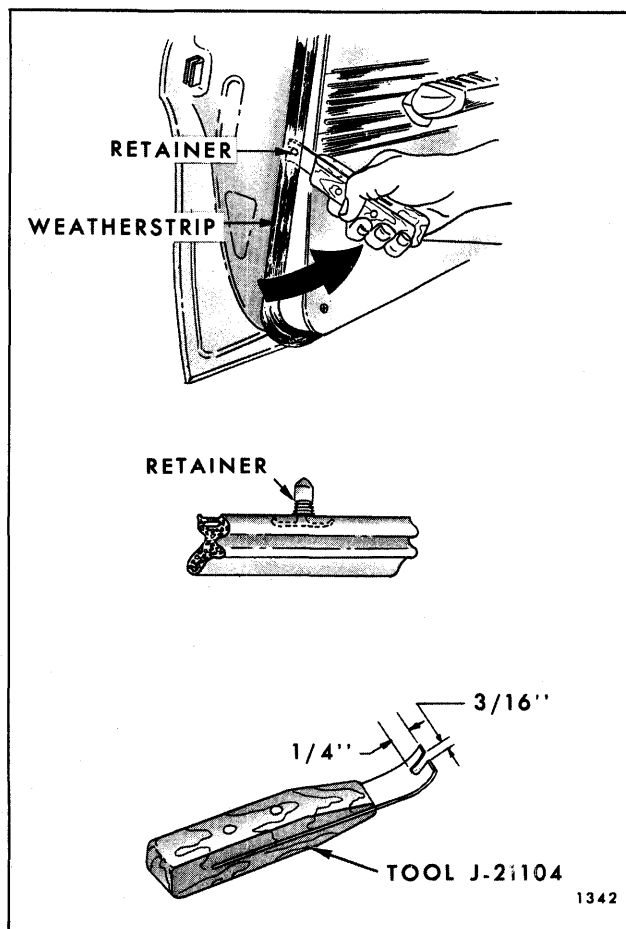
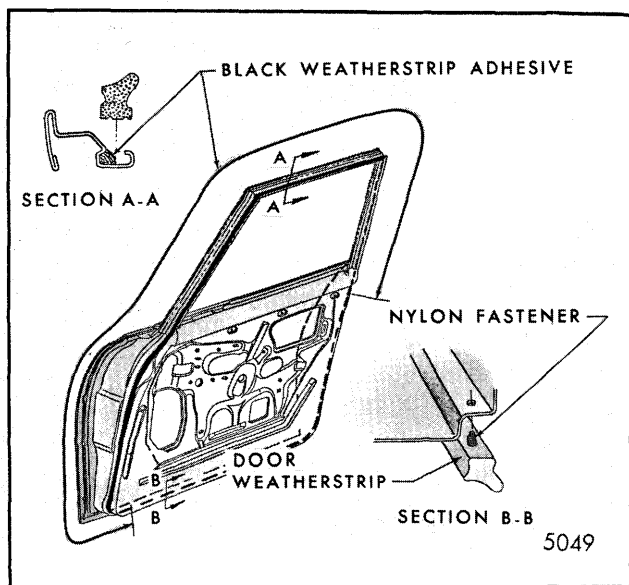

Fig. 5-10-Door Weatherstrip Removal
Fig. 5-11-Door Weatherstrip
Both the front and rear doors use nylon fasteners to retain the door weatherstrips. The fasteners are a component part of the weatherstrip and secure the weatherstrip to the door by engaging piercings in the door panels. The serrations on the fastener retain the fastener in the piercing and also seal the openings from water entry (Fig. 5-10). Nylon fasteners are used below the beltline only. Weatherstrip adhesive retains the weatherstrip around the door upper frame (Fig. 5-11). In addition to the fastener, weatherstrip adhesive is used at the beltline and down the front door hinge pillar.
To disengage nylon fasteners from door panel piercings use tool J-21104 or equivalent (Fig. 5-10). This tool permits removal of the weatherstrip without damaging the serrations on the fasteners so that the weatherstrip can be reinstalled if desired. Although a replacement door weatherstrip will include nylon fasteners, individual fasteners are also available as service parts.
hinge pillar (Fig. 5-11). In addition, the weatherstrip is retained by weatherstrip adhesive completely around door upper frame (Fig. 5-11).
3. Apply black weatherstrip adhesive around door upper frame (Fig. 5-11).
2. Disengage nylon fasteners from door inner panel pierced holes using weatherstrip removal tool J-21104 or equivalent (Fig. 5-10); then, remove sealing strip.
2. Disengage "nail type" plastic fasteners from door inner panel using weatherstrip removal tool J-21104 or equivalent (Fig. 5-10); then, remove filler.